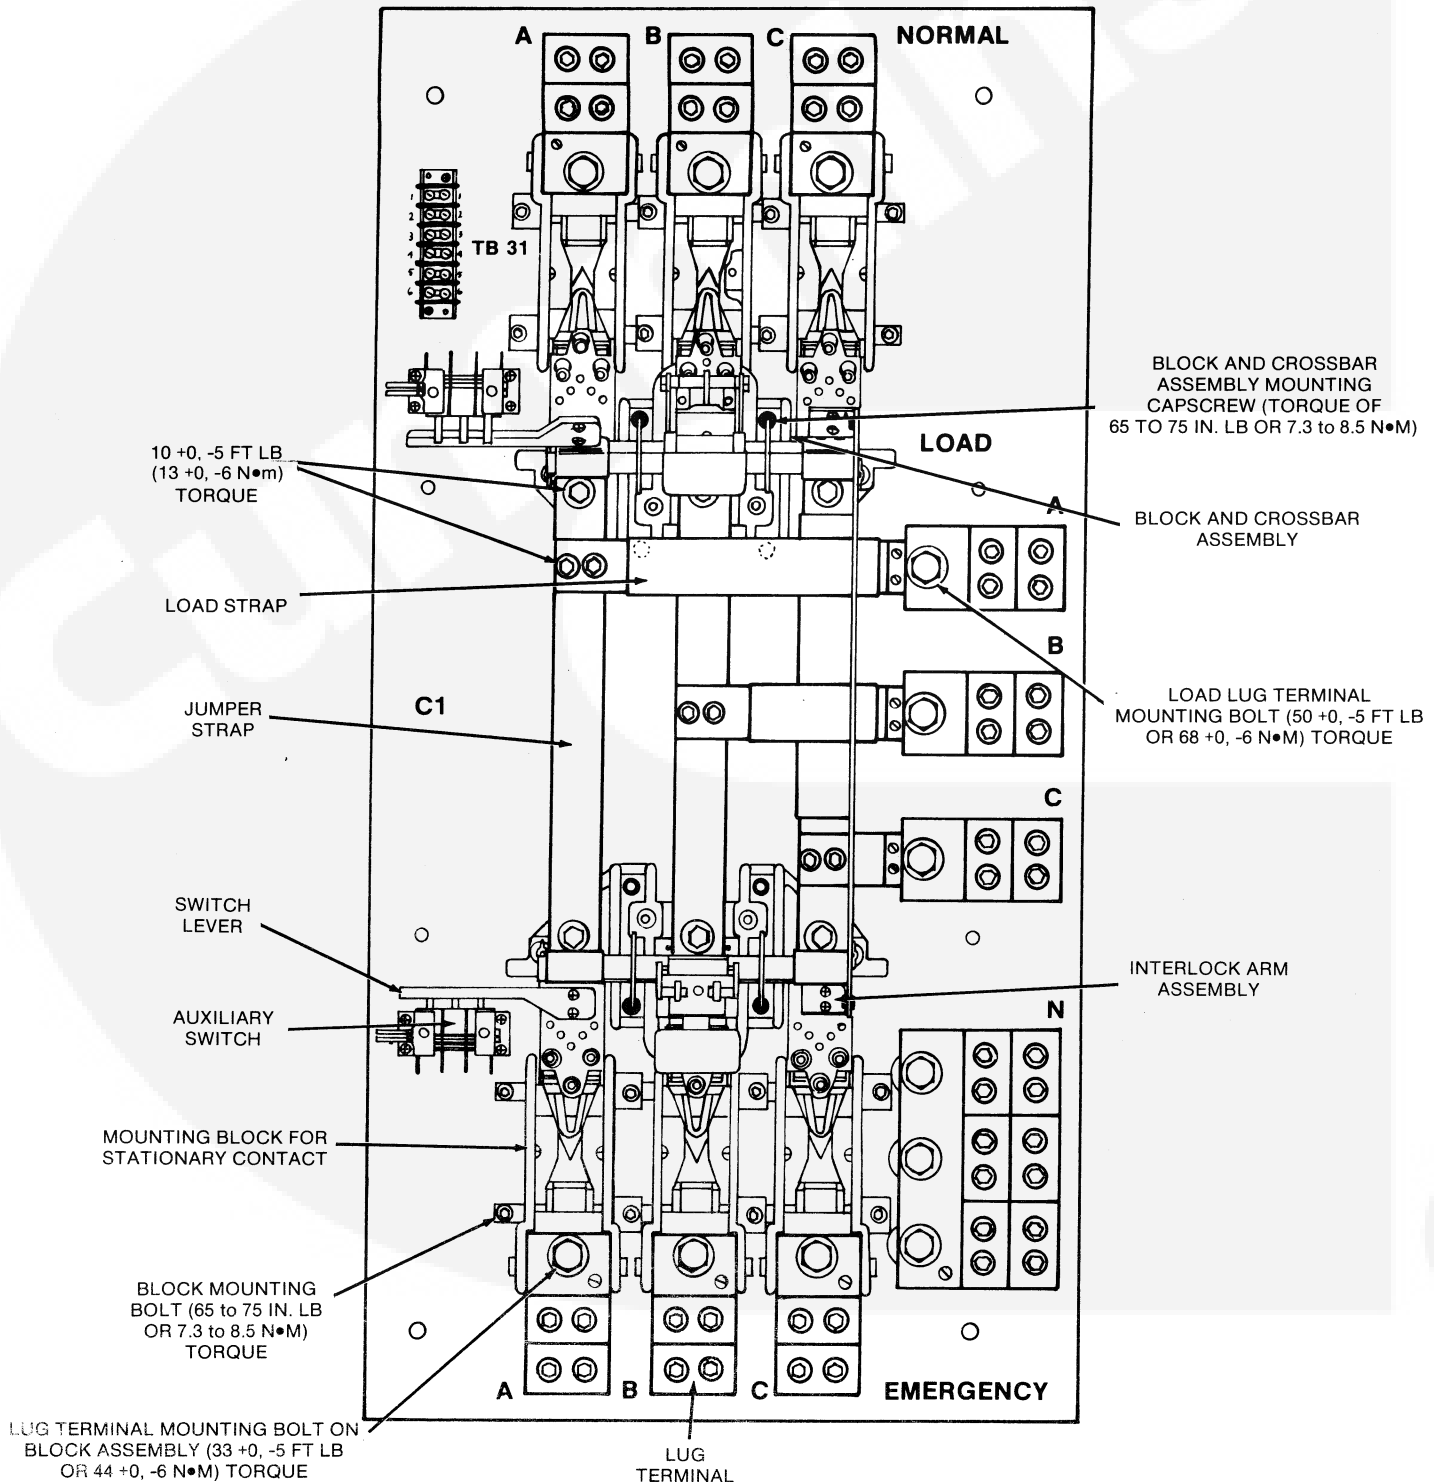

FIGURE 37. TYPICAL 400 THROUGH 1000 AMPERE OT SWITCHING ASSEMBLY
6. Remove the normal or emergency wires from lug terminals, whichever applies (Figure 37).
26. If the top block and crossbar assembly was replaced, reconnect the top load strap. Tighten the large capscrew on the load lug terminal mounting bolt to 50 +0, -5 ft lb (68 +0, -6 N•m) and the smaller capscrews to 10 +0, -5 ft lb (13 +0, -6 N•m). Make sure the strap mating surfaces still have a thin coat of electrical, anti-oxidant compound before reconnecting load strap. See Figure 37.